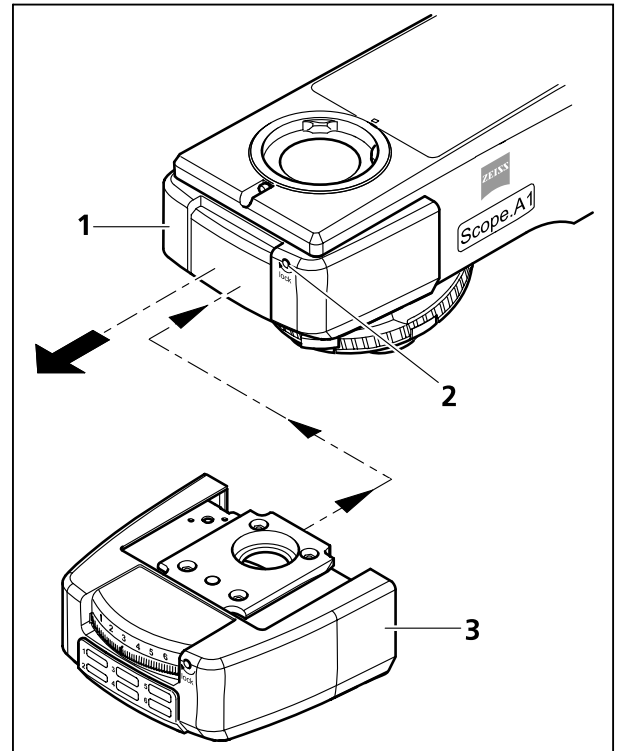

Fig. 3-9 Mounting the reflector insert
- First remove the cover cap (Fig. 3-9/1) by inserting the ball head screwdriver (SW 3 mm) into the slit (Fig. 3-9/2). Turn the locking screw counter clockwise to the stop and pull the cover cap forward.
- Put the reflector insert (Fig. 3-9/3) with the reflector modules P&C (e.g. reflector turret 6-fold) into the upper stand part until it stops, hold it and tighten the locking screw again.